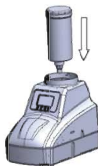

Figure 12
② As the Figure 12 shows, please insert the reagent bottle into the device (On the sealing surface of bottle, there is a check valve to avoid the reagent flowing out before inserting).